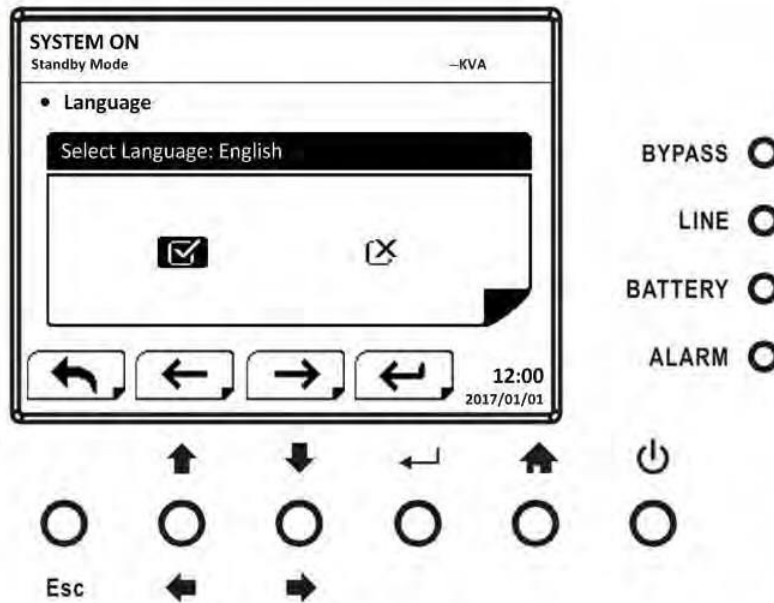

Figure 5-17 SETUP Confirmation screen
or “X” (NO). Choose “☑” and press “←” button to confirm setting or choose “X” to cancel the setting, as shown in Figure 5-17.